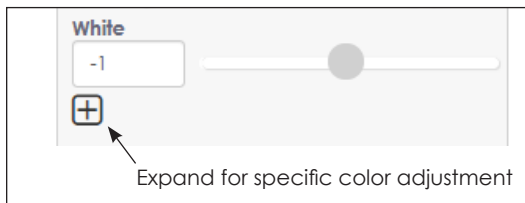
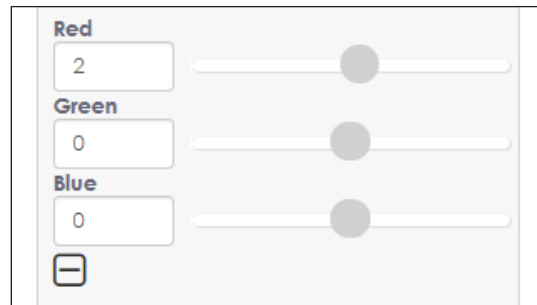

Figure 59: White Adjustment
Figure 60: Color Adjustment
8. Adjust the selected module(s) using the **White** slider. This action uniformly adjusts the red, green and blue values. Refer to **Figure 59**.
9. Click the expand icon **+** as shown in **Figure 59** to open the options for specific red, green, or blue values. Adjust the values for any of these colors with the sliders or by entering values in the text boxes. Refer to **Figure 60**.